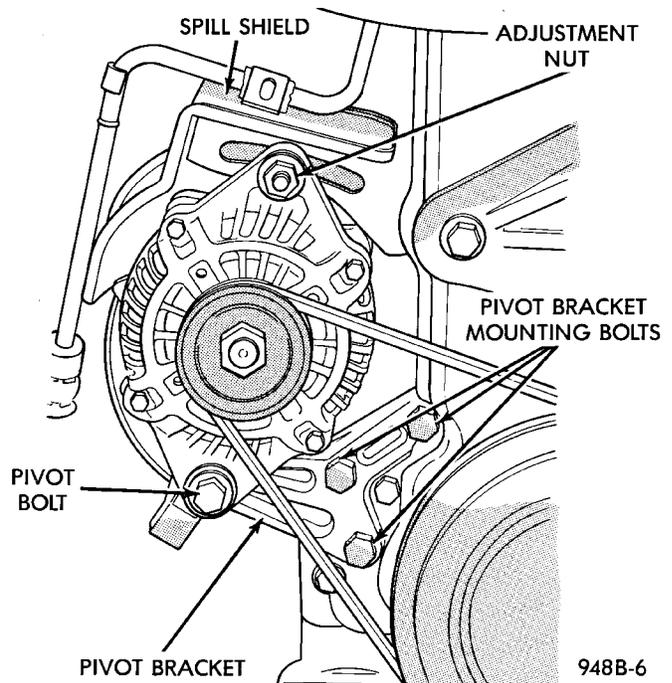
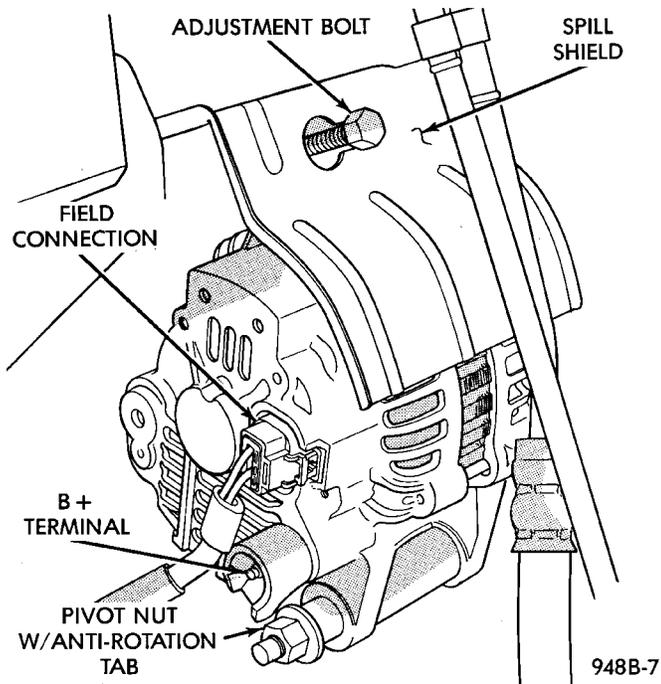

Fig. 10 Generator Front View
Fig. 11 Generator Rear View
- (4) Remove the plastic lower splash shield.
- (5) Disconnect the generator field circuit wiring connector (Fig. 11). Squeeze locking tab to release.
- (6) Remove the B+ terminal nut and wire.
- (7) Loosen pivot bolt, but do not remove (Fig. 10) and (Fig. 11).